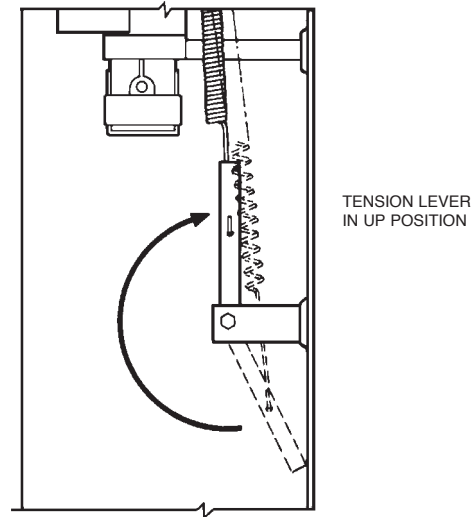

FIGURE 8-7
19. Raise tension lever to **Up** position. See Figure 8-7.